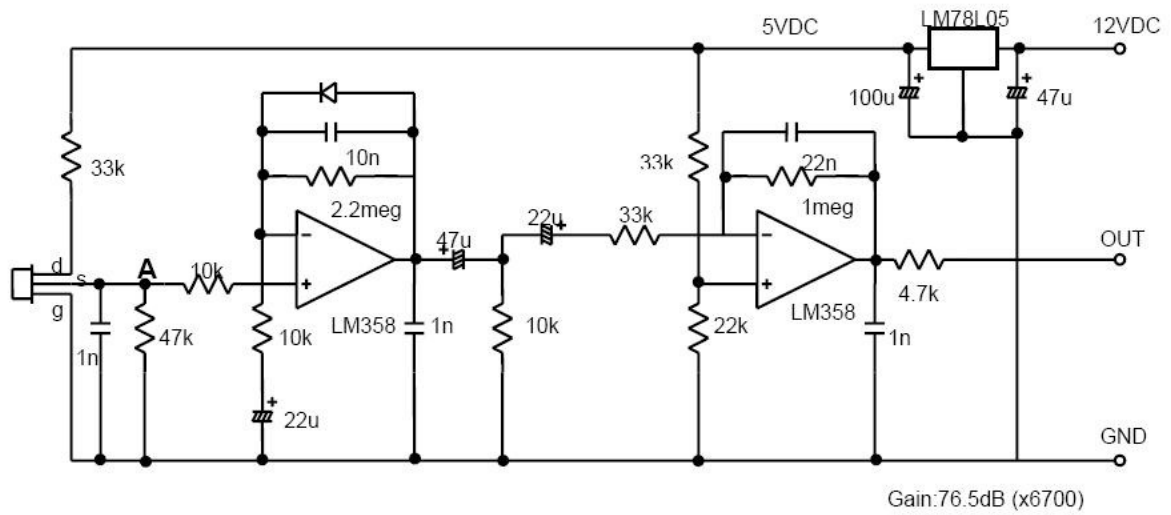

Figure 3. Test circuit
- Test circuit : With the circuit shown in figure3.